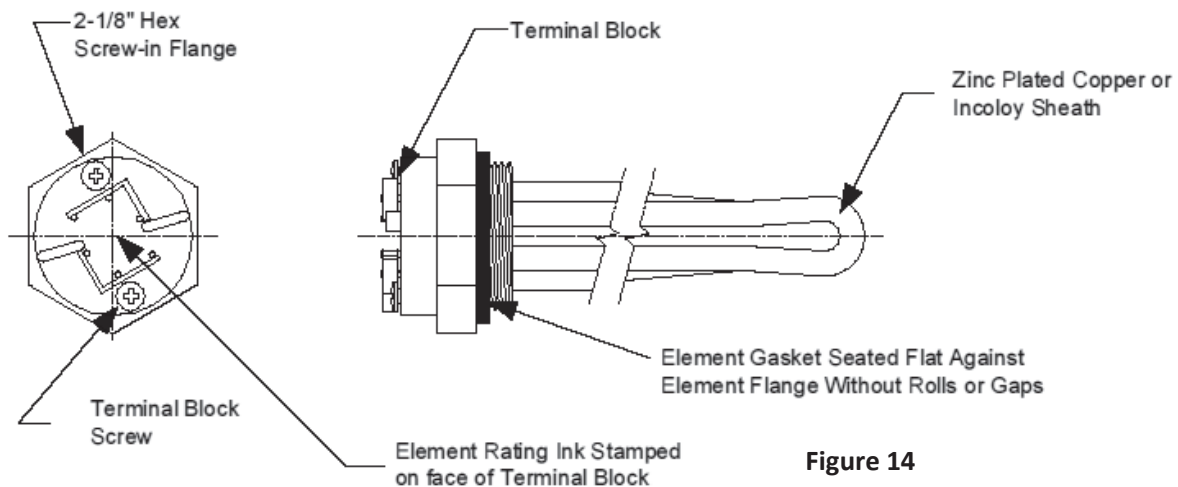

Figure 14
1. Check new heating element terminal block for proper electrical rating. **NOTE:** Some heating elements have dual ratings, be sure to check all surfaces of the heating element terminal block (see Figure 14).
2. Apply new gasket to the new heating element. Be sure gasket is seated flat against heating element flange without rolls or gaps (see Figure 14).